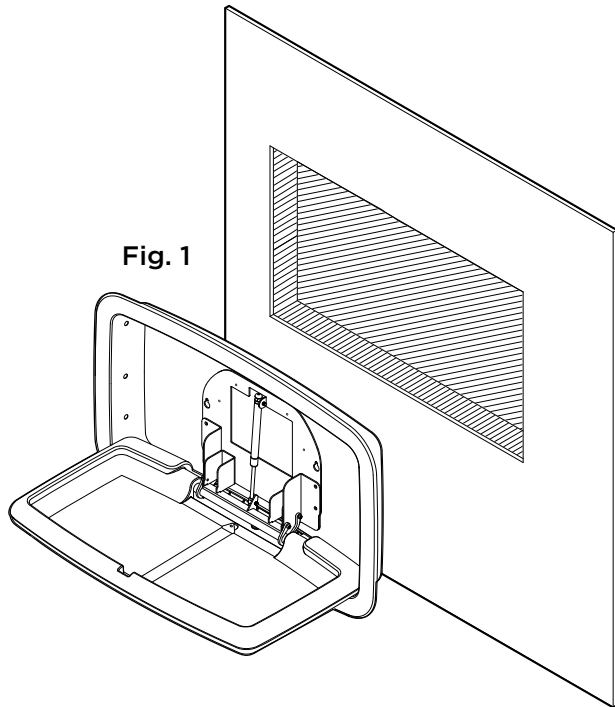

Fig. 1
- Prepare the rough wall opening per the Technical Data sheet. **Fig. 1**